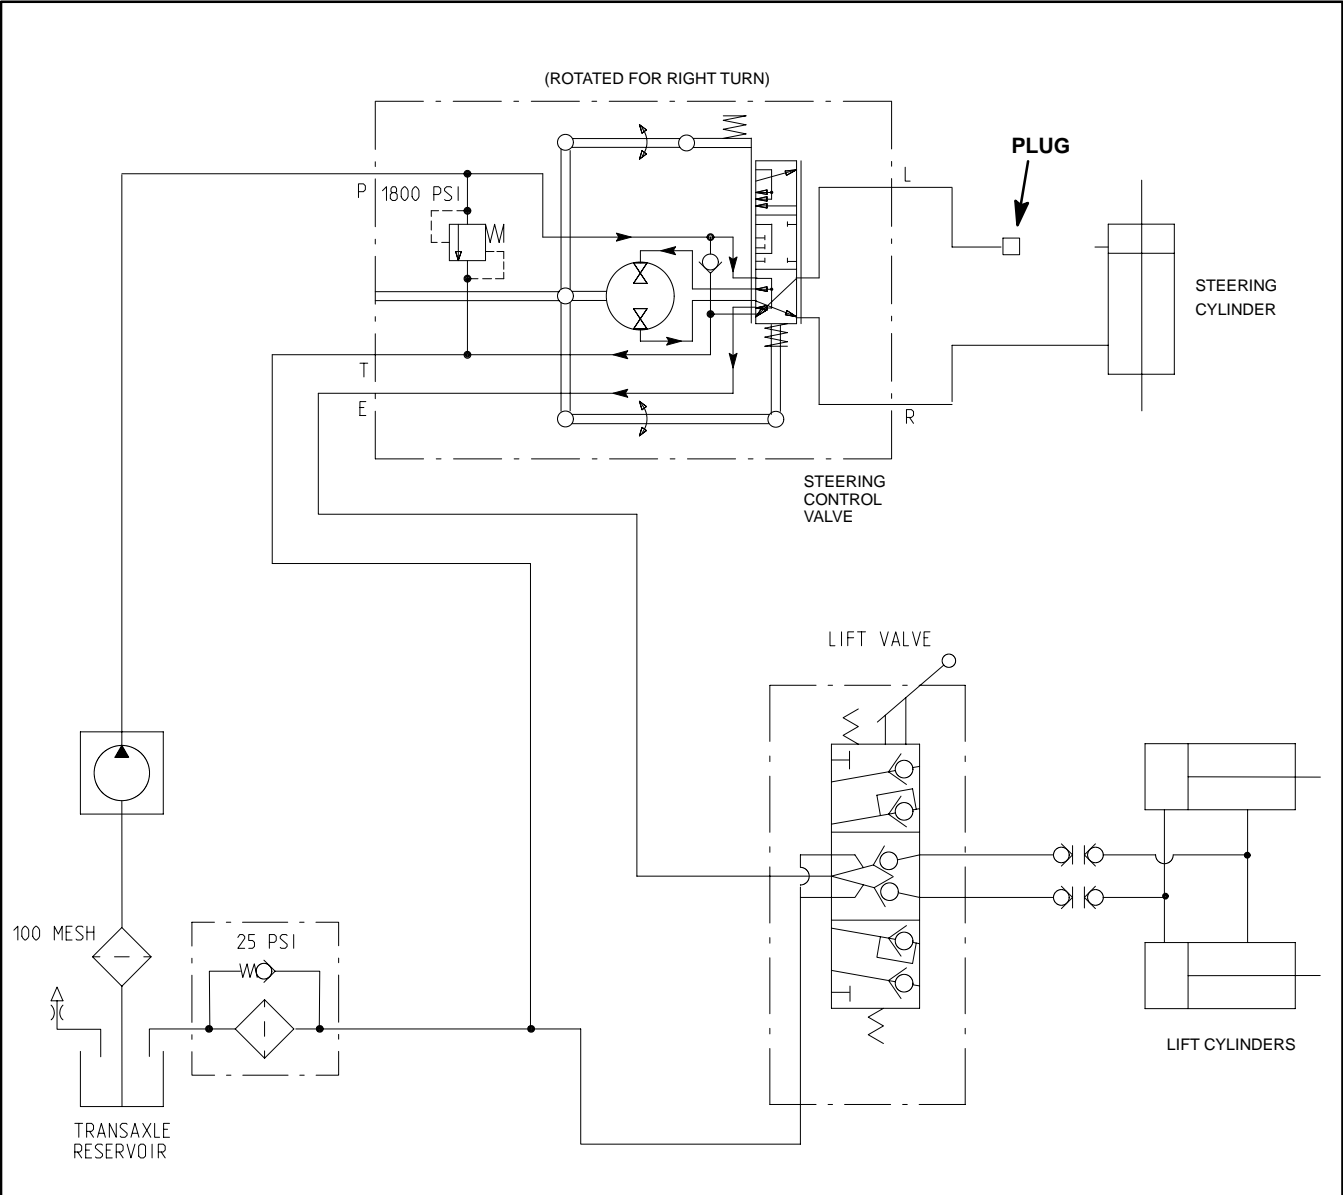

Figure 20
E. Clean and remove hydraulic hose from the fitting on the rod end of the steering cylinder. Plug the end of the disconnected hose (Fig. 20).